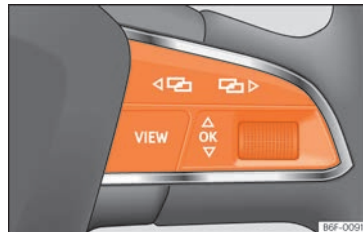

Fig. 133 Right side of multifunction steering wheel: buttons to the menus and informative indications on the instrument panel.
hidden with the button **OK** of the multifunction steering wheel » **Fig. 133**.
- If a message or vehicle symbol is displayed, press the button **OK** » **Fig. 133**; if necessary, several times.
- To change menus, use buttons **◀▶** or **↶↷** » **Fig. 133**.
- To open the menu or the information displayed, press the button **OK** » **Fig. 133** or wait a few seconds until the menu or the informative display opens automatically.
- In the menu displayed, turn the right thumb-wheel of the multifunction steering wheel » **Fig. 133** until the desired option of the menu is highlighted. The option appears framed.
- Press the button **OK** » **Fig. 133** to make the required modifications. A mark indicates that the system or function is activated.
Press the button **◀▶** or **↶↷** » **Fig. 133**.